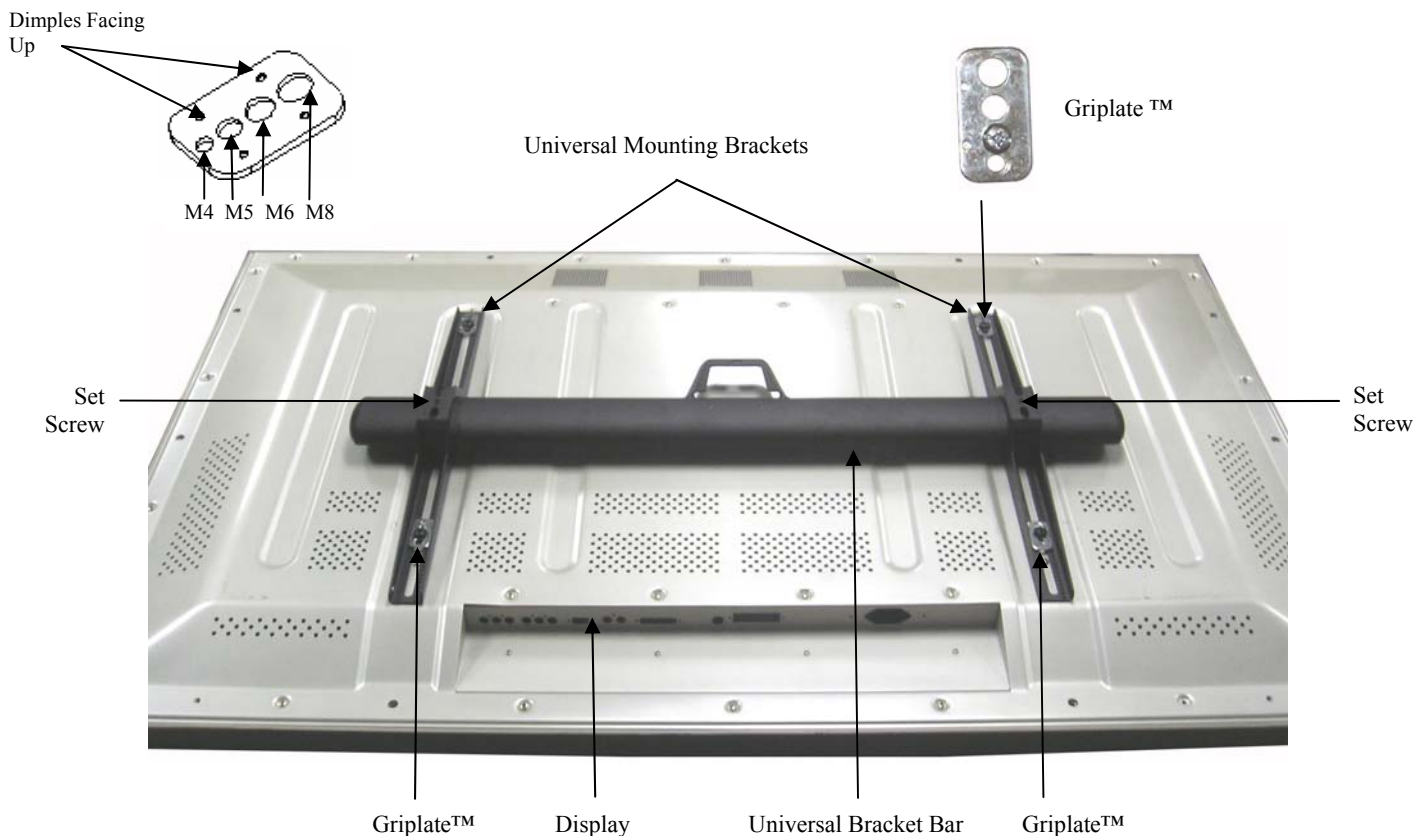

Figure 9
2. Slide the universal brackets onto the universal bracket bar (as shown in Figure 9) with the set screws facing up. At this time, do not tighten the set screws that are located on the universal bracket.